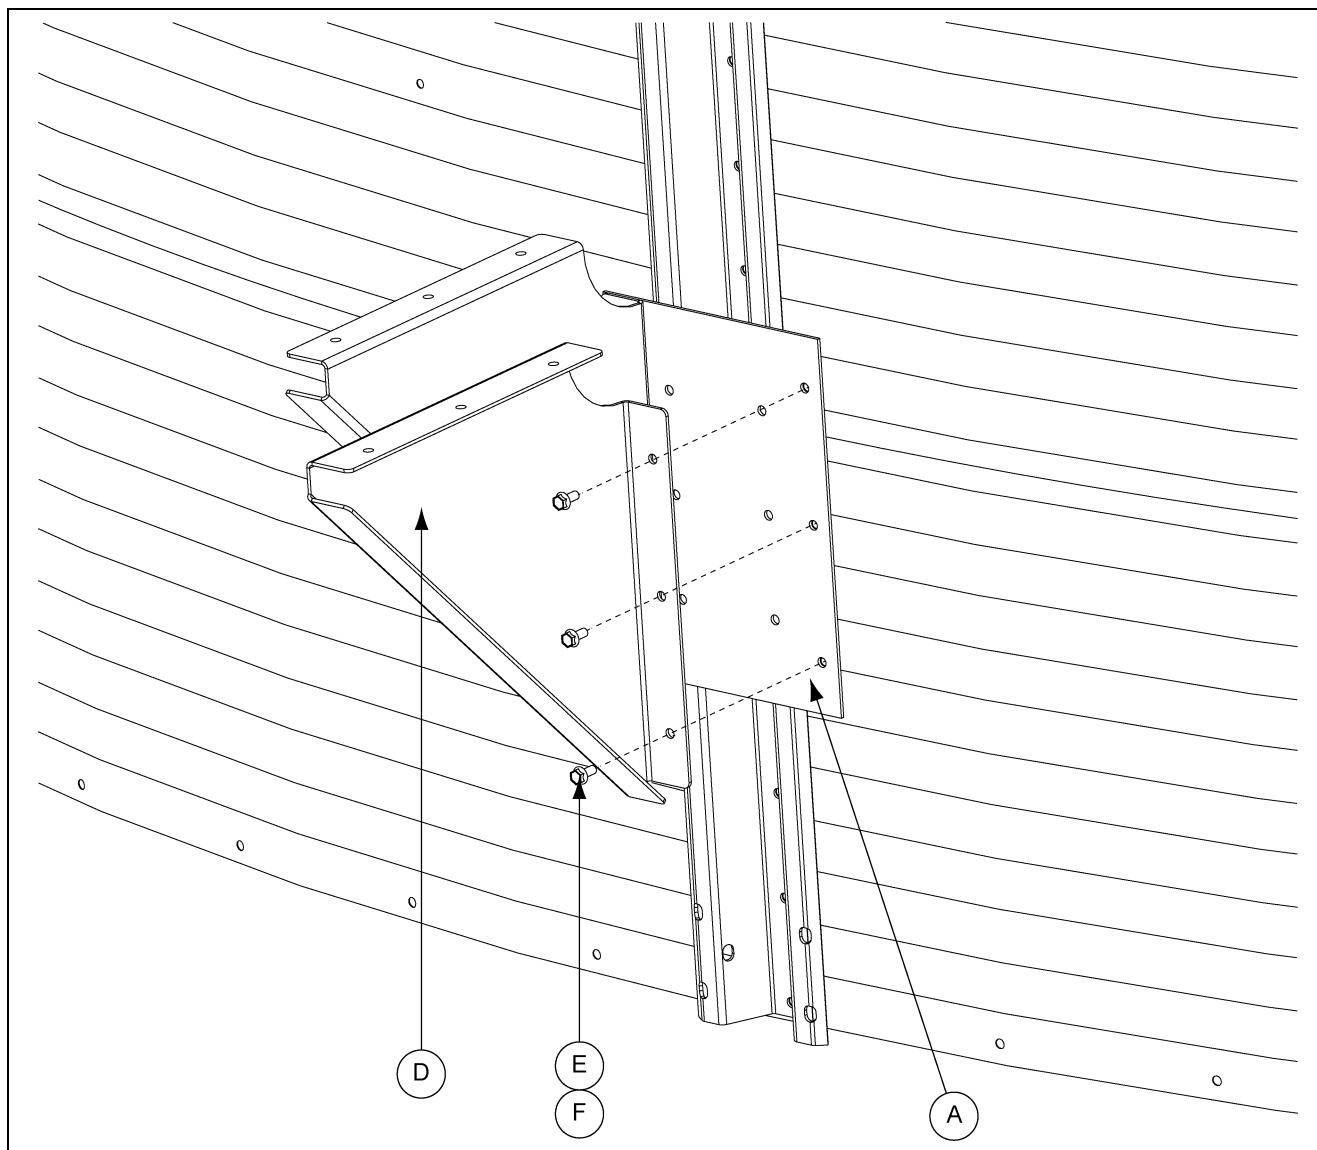

Figure 4E
4. Attach the lower mounting gussets (D) to stiffener mounting plate (A) using three (3) flange bolts (E) and nuts (F) for each mounting gusset. (See Figure 4E.)